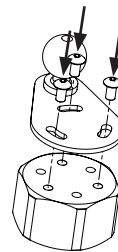

Figure 2
4. Using the 5/64" Hex Key, fasten the *Extension Plate* to the Steering Stem Nut with the three *Extension Plate Screws* as shown in **Figure 2**. The ball should be oriented towards the front of the motorcycle.